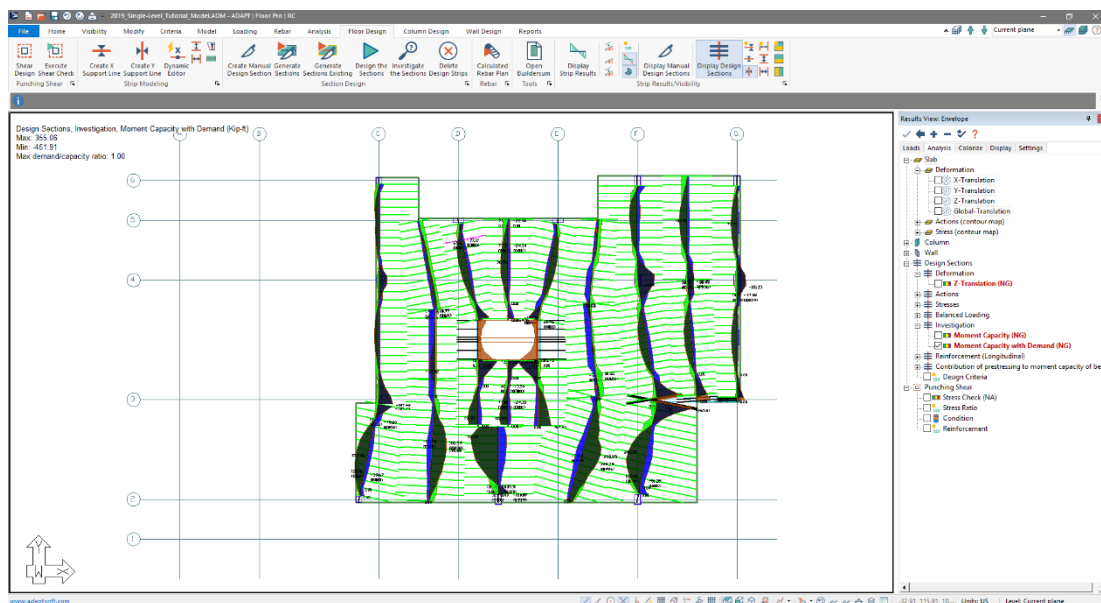

Figure 7-21
- Go to *Floor Design* → *Strip Results/Visibility* click on the *Display/Hide Support Lines in the Y-direction*  icon to turn on the support lines in the Y-direction. The user should now see the Moment Capacity Check along the Y-direction support lines as shown in **FIGURE 7-21**.